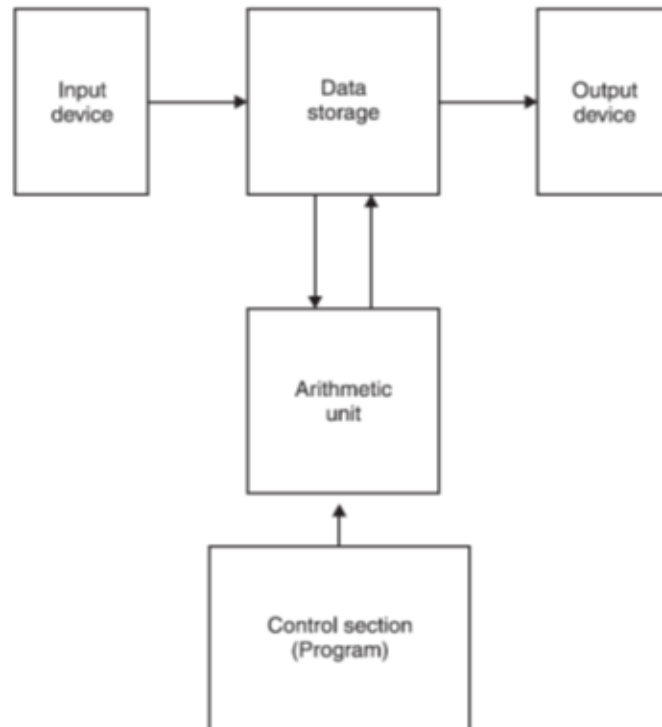

Fig. 4.3 Basic calculator structure
2. Numerical data are entered for the programs to operate on. Since the calculator is essentially a special kind of computer, it has a similar internal structure. This structure is illustrated in Fig. 4.3.